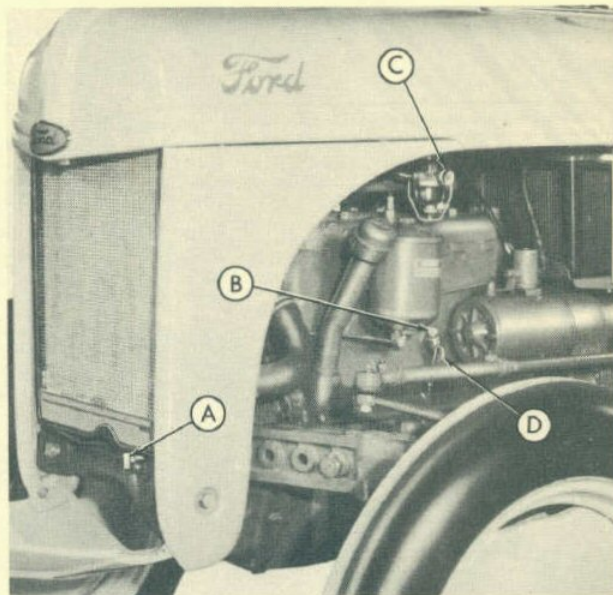
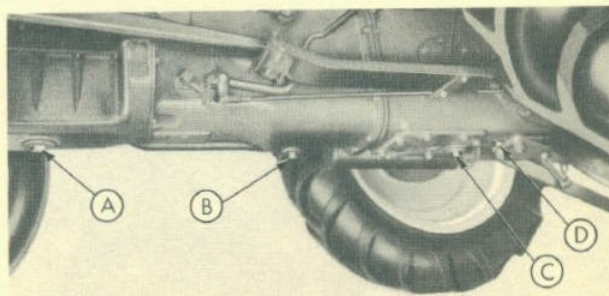

Fig. 1
Fig. 2
- Step 1—Remove the radiator cap and drain the radiator at (A-Figure 1) and the block at (B-Figure 1).
- Step 2—Remove the plug (A-Figure 2) from the crankcase. Drain the oil into a pan. Remove the oil stick (D-Figure 1).
- Step 3—Remove the plug (B-Figure 2) from the transmission housing and drain the oil into a pan.
- Step 4—Remove the two plugs (C- and D-Figure 2) from the center housing and drain the oil into a pan.
- Step 1—Shut off the fuel at the filter bowl (C-Figure 1).